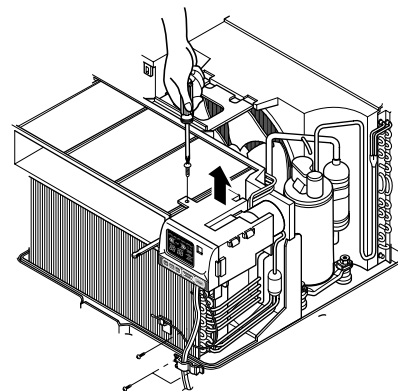

Figure 3
11. Raise the control box upward completely. (See Figure 3)